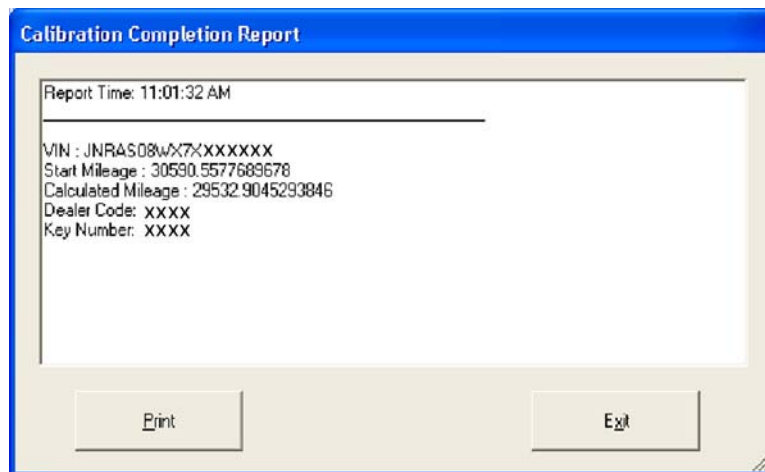

Figure 1m
23. After waiting 2 minutes, the **Calibration Completion Report** will display (Figure 1m).